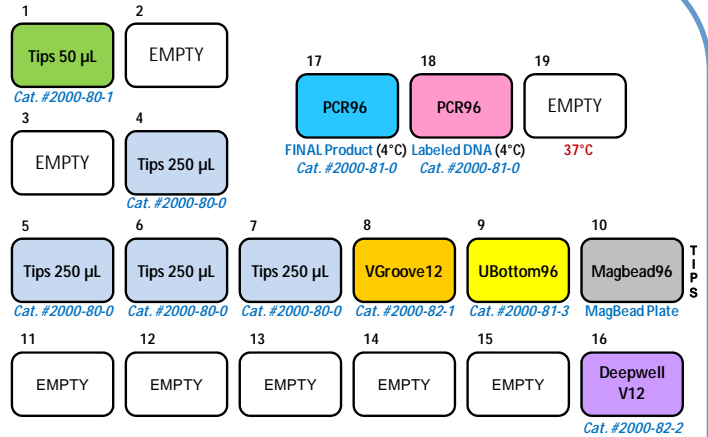

Figure 9. Deck layout for magnetic bead purification of 32 samples.
1. Ensure that all labware is placed on the correct positions on the ArrayPrep® instrument (see Figure 9).